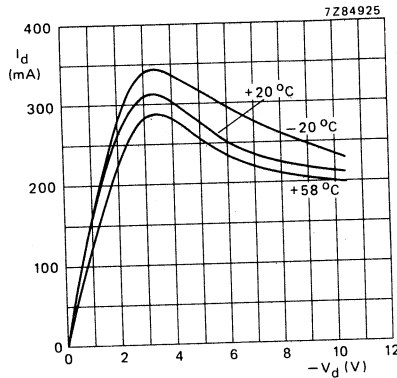

Fig. 2 D.C. bias characteristics of the Gunn oscillator for $T_{HS} = -20, +20$ and $+58$ °C.
2. The power supply should be low-impedance voltage regulated and capable of supplying approximately 1,5 times the normal operating current to initiate oscillations. See Fig. 2.